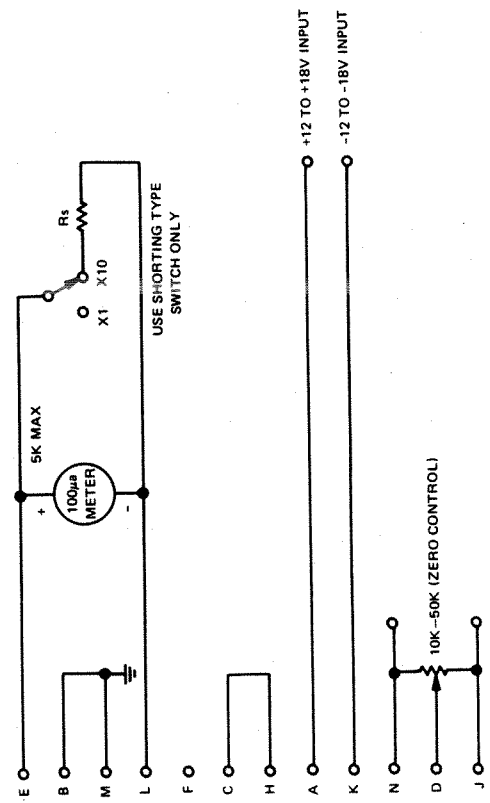

Figure 4-1. Constant Current Dual Supply Connection, Models 464B, 465B, 466B
- j. Solder wires to desired pins on pin assembly (as indicated in installation connections, Figures 4-1 through 4-14).